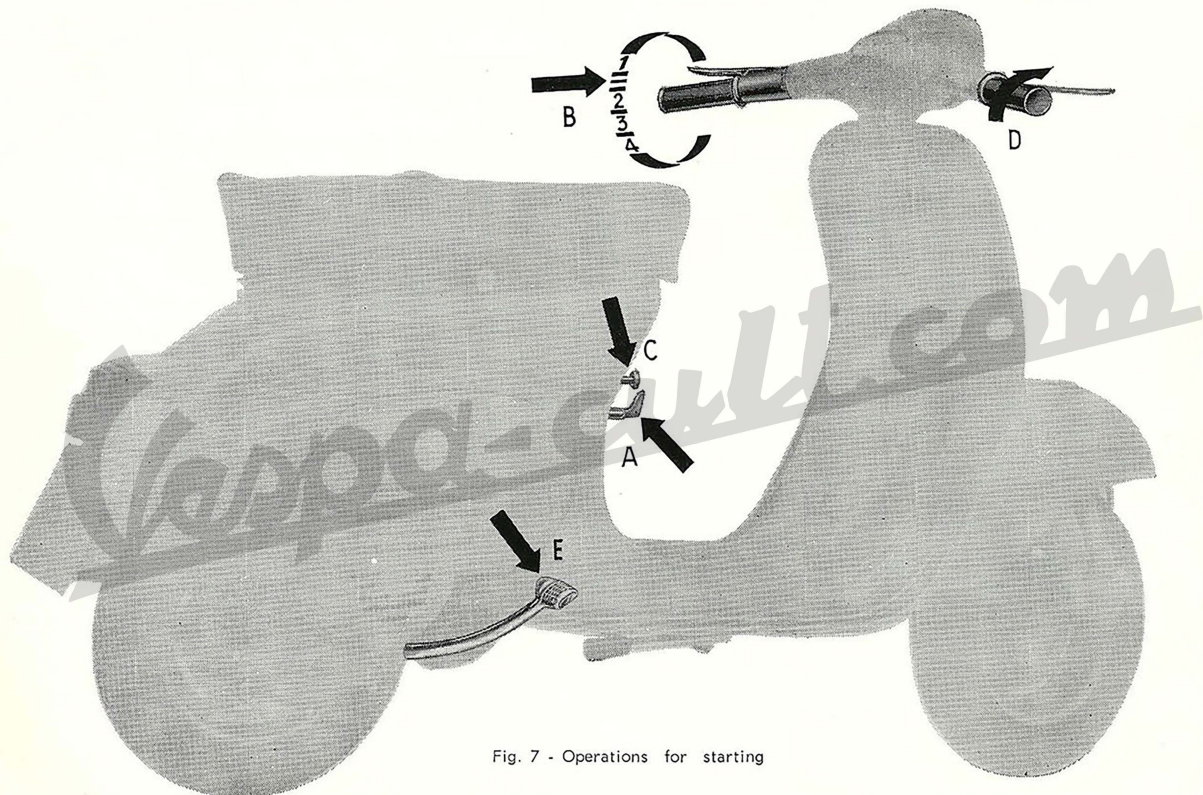
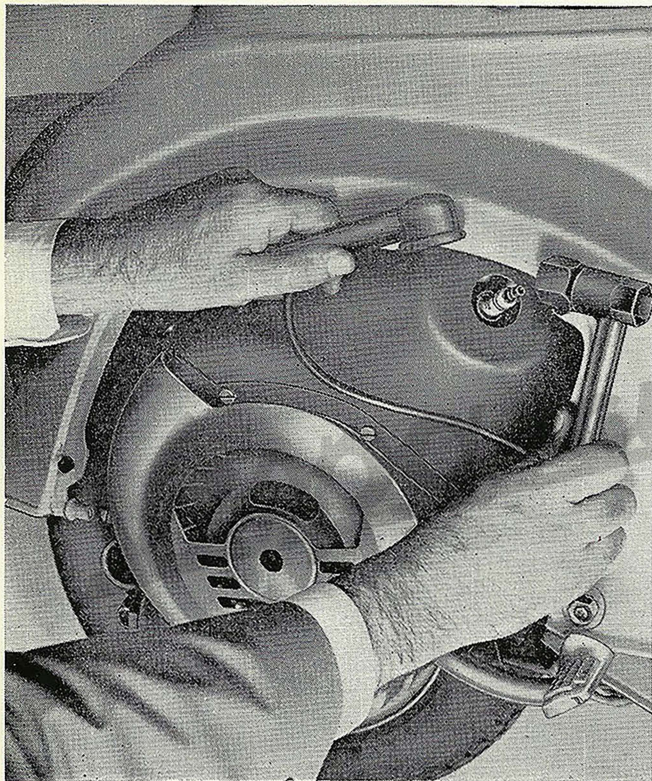

Fig. 7 - Operations for starting
Fig. 10 - Dismantling spark - plug
- Close the fuel tap (« A », fig. 7), remove the sparking plug (fig. 10) and clean; then kick over the engine several times.